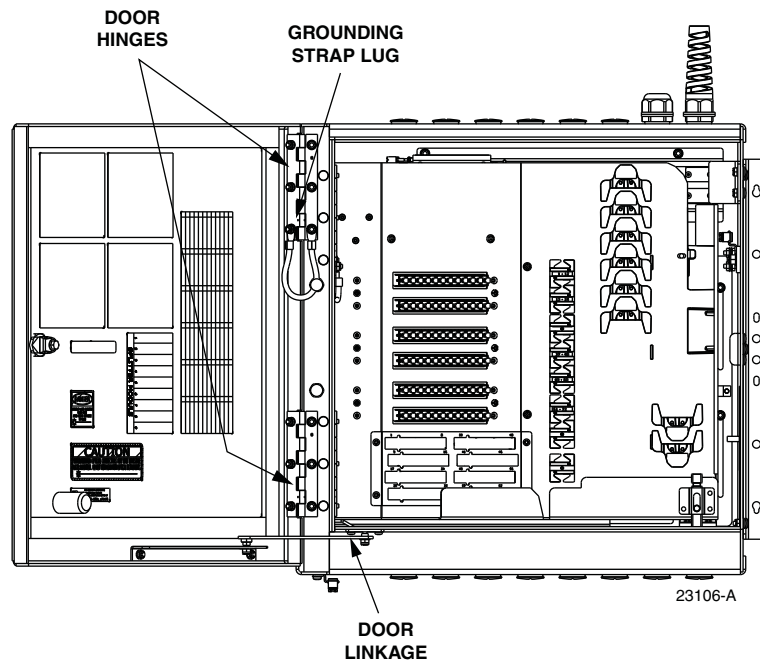

Figure 78. Door Replacement
1. Open cabinet door and lock in the open position as shown in Figure 78.
► **Note:** Be sure to re-attach the grounding strap lug (see Figure 78) to the door when securing the hinges to the door.